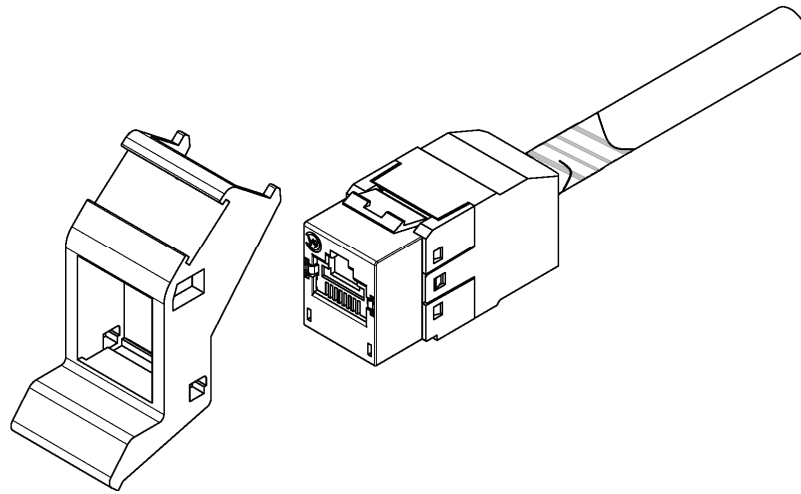

Fig. 8
1. Orientate jack to module as shown in Fig. 8